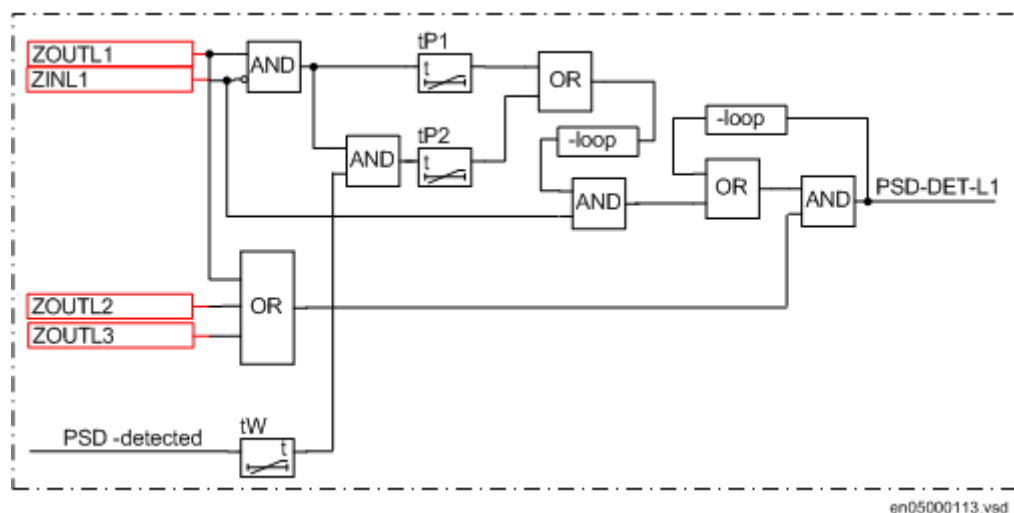

Figure 78: Detection of power swing in phase L1
- The "1-of-3" operating mode is based on detection of power swing in any of the three phases. Figure 78 presents a composition of an internal detection signal DET-L1 in this particular phase.
Signals ZOUTLn (outer boundary) and ZINLn (inner boundary) in figure 78 are related to the operation of the impedance measuring elements in each phase separately (Ln represents the corresponding phase L1, L2, and L3). They are internal signals, calculated by ZMRPSB function.
The  $tP1$  timer in figure 78 serve as detection of initial power swings, which are usually not as fast as the later swings are. The  $tP2$  timer become activated for the
detection of the consecutive swings, if the measured impedance exit the operate area and returns within the time delay, set on the  $tW$  waiting timer. The upper part of figure 78 (internal input signal ZOUTL1, ZINL1, AND-gates and tP-timers etc.) are duplicated for phase L2 and L3. All  $tP1$  and  $tP2$  timers in the figure have the same settings.